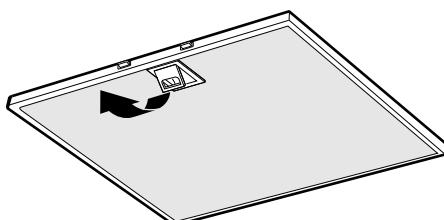

Fig. 10
- Remove the grease filters by opening the snap retainer, Fig. 10. Handle the filters carefully, taking care not to bend them.